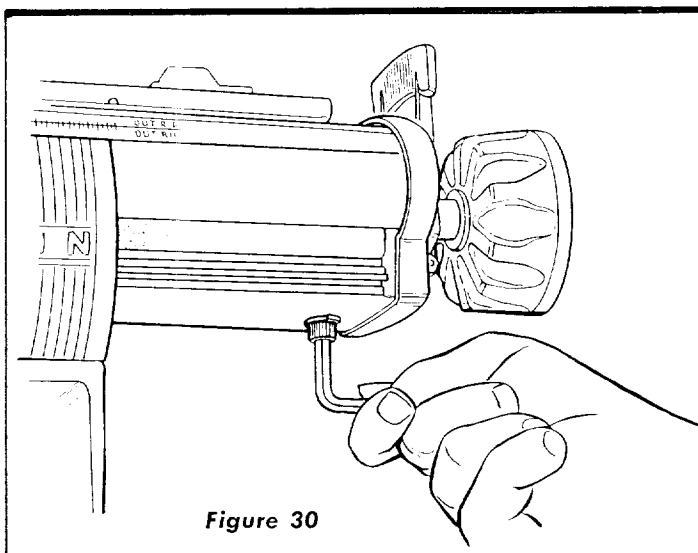

Figure 30
3. Remove the carriage stop screw and lockwasher from the underside of radial arm near the front end of the arm. (See figure 30.)
10. Install carriage stop screw and lockwasher in radial arm. (See figure 30.)